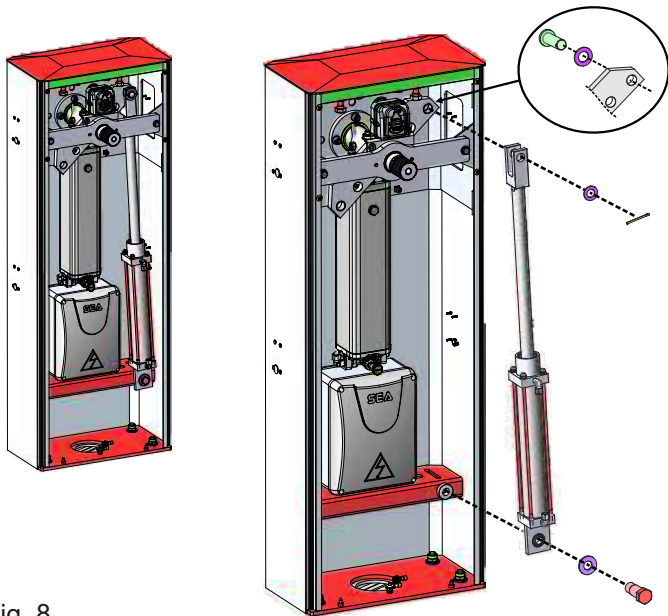

Fig. 8
- unscrew the hydraulic piston - Fig. 8, release it from the hydraulic pipes avoiding that they intertwining, then place the piston on the opposite side of the barrier and tighten with the fixing screws - Fig. 9
! For the correct balancing of the arm, it is recommended to unscrew the piston from the rocker arm, as shown in CHAPTER 4 - Fig. 8 or Fig. 9